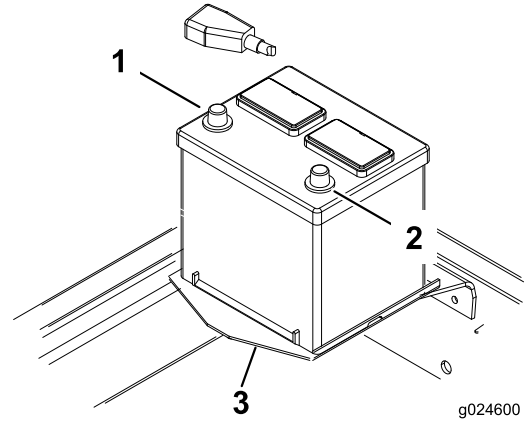

Figure 4
- Disconnect and remove the battery from the machine (Figure 4).
- Remove the (4) screws and nuts securing the battery base assembly to the frame (Figure 4). Remove the battery base from the machine.
- Secure the rear of the axle frame and the inside weight to the machine frame with (2) 1/2 x 1-1/2 inch flange head screws.